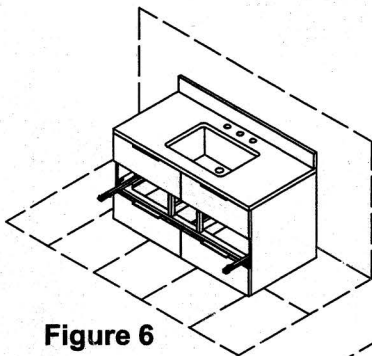

Figure 6
-Fully extend the slide rail out . See Figure 6.